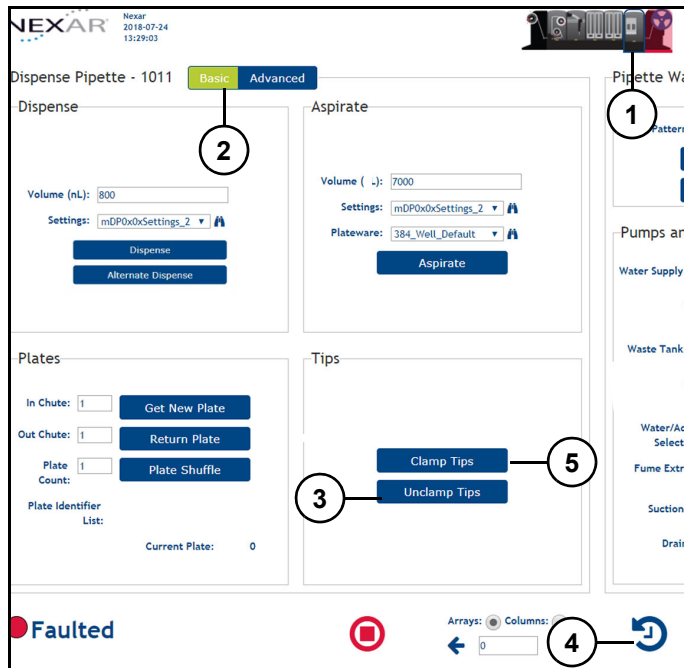

Figure 19
Refer to (Figure 19).
7. Click "Reset" (4) (Figure 19).
8. Press "Clamp Tips" (5) (Figure 19) and wait until tip tray is clamped.